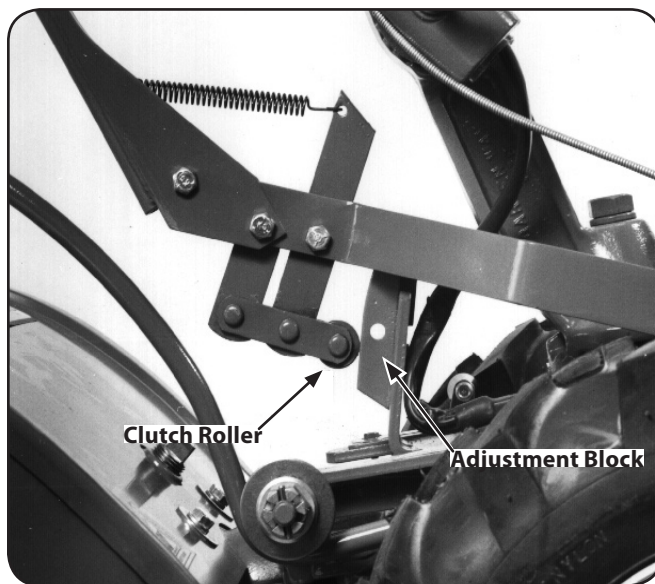

Figure 3-12
8. To test Reverse, lift and hold the lever all the way up in the Reverse position, then let it go. The lever should automatically return to the Neutral position. See Fig. 3-12. If not, do not use the tiller. See your local authorized dealer or call the Factory Technical Service Department for instructions.